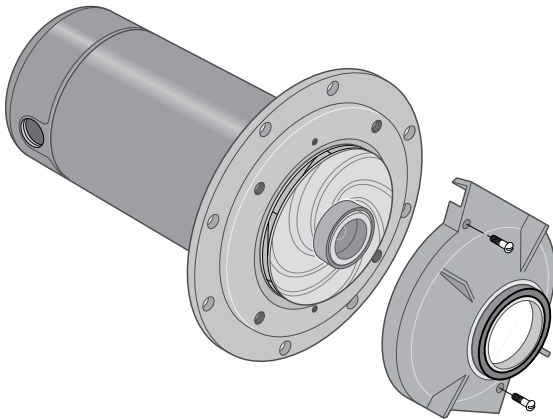

Figure 15 - Remove Diffuser
3. Remove diffuser (Figure 15). The exposed impeller can now be cleaned.